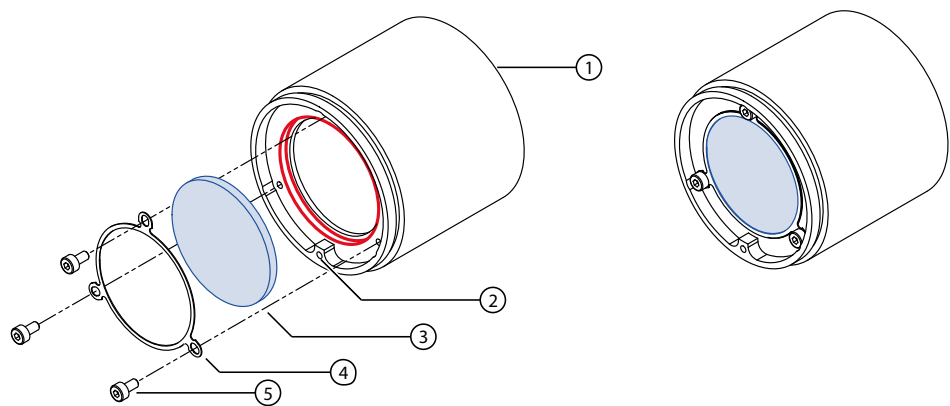

Figure 72: Changing the filter in the M42-Mount adapter
- See Figure 72 (blue = filter, red = filter recess).